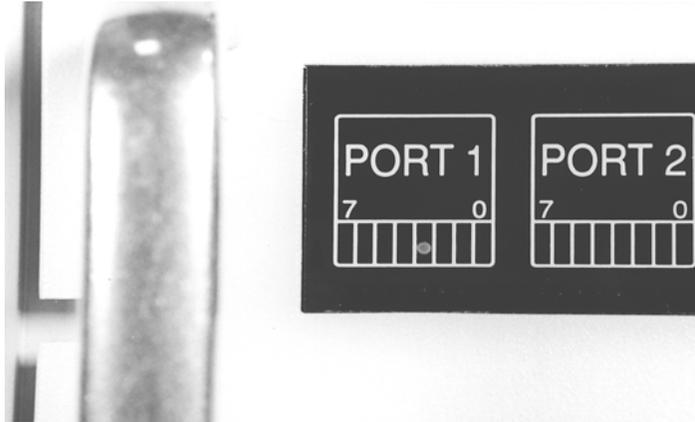

Figure 6-11—AutoPak LED showing Port 1, Bit 3 is on
- 3c) Adjust the sensor so that AutoPak LED Port 1, Bit 3 is on when Tray 1 is inserted. See *Figure 6-11*.